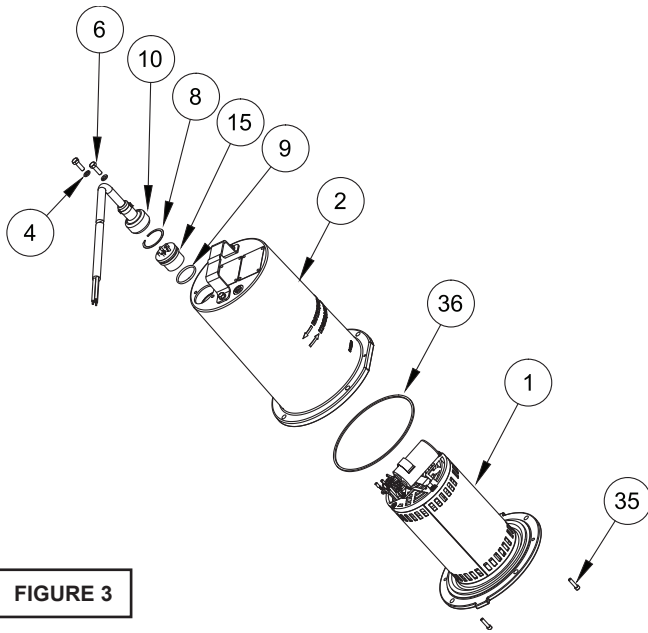
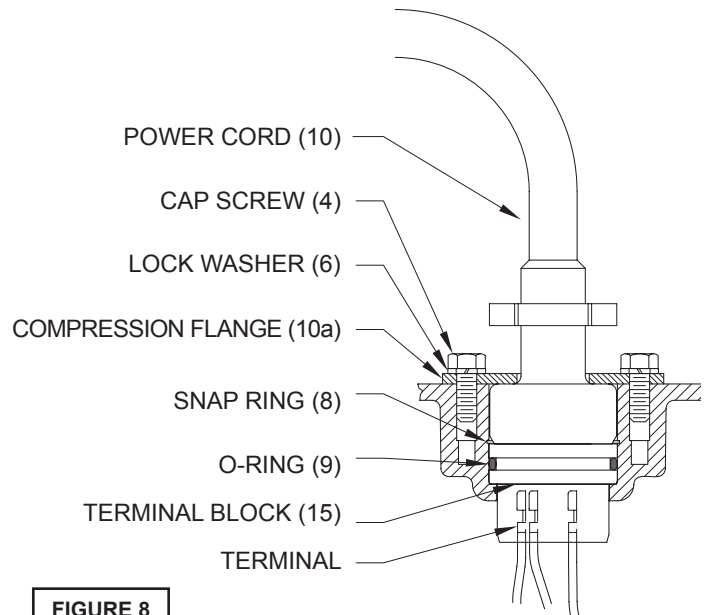

FIGURE 3
FIGURE 8
To examine or replace the motor (1), bearing (39) and shaft seal (38), drain oil from motor as outlined in paragraph F-1.2. Disassemble volute and impeller as outlined in paragraph F-2.1. (See Figure 3, 4, and 5) Position unit upright, using blocks to avoid resting unit on shaft. Unscrew cord hex bolts (4) and remove compression flange (10a) and power cord (10). Remove snap ring (8) with a flat head screwdriver. Pull the terminal block (15) out of the motor housing (2) using a T-bolt or pair of pliers and a .25-20 screw in the threads of the terminal block (15). Be sure to leave slack on the motor leads connected underneath. Use needle nose pliers to pull each female connector off of the pins on the underside of the terminal block (15) (see Figure 8). The unit voltage should be noted. Remove socket head cap screws (35). Vertically lift upper pump assembly from seal plate (24) by lifting handle (7). Inspect square ring (36) for damage or cuts.